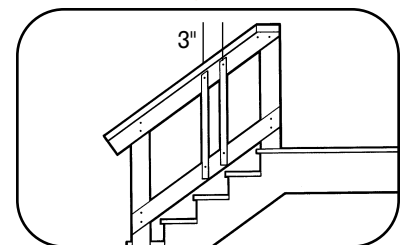

Fig. 42
- Balusters must be installed no more than 3" apart* (Fig. 42). Use a level and a square to ensure proper alignment of each Baluster. *Note: A piece of scrap Side Rail cut 3" wide can be used as a spacer when installing Balusters.*